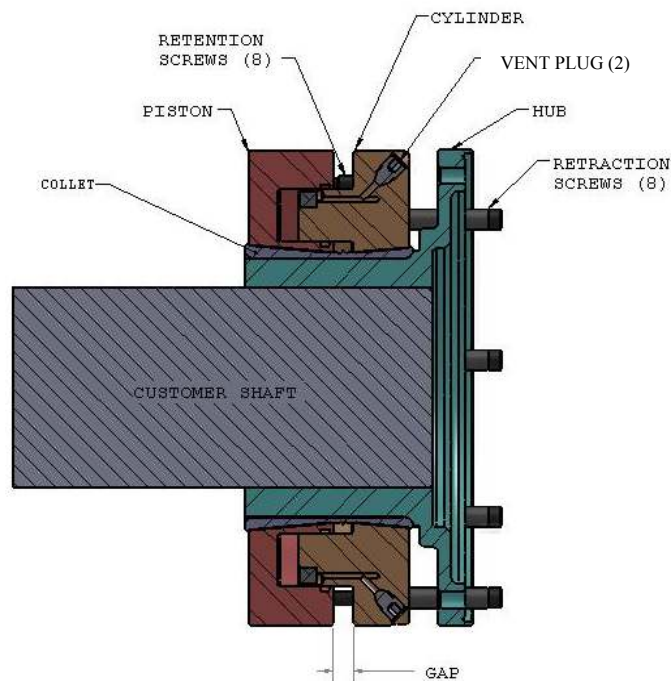
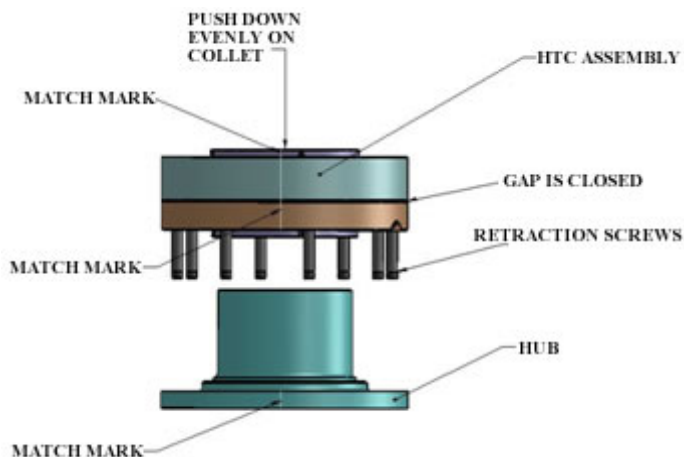
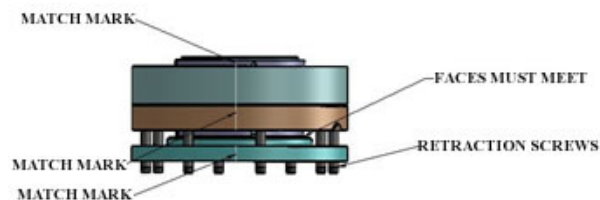

FIGURE 1a - HTC/Hub Assembly Cross Section
Figure 2a
Figure 2b
The Hydraulic Torque Coupler (HTC) connects the hub to the shaft. It accomplishes this by squeezing the hub OD with very high pressure. This pressure forces the hub to squeeze down onto the shaft producing a tight fit. Squeeze is produced when hydraulic pressure is applied. This separates the piston and cylinder of the HTC. As these rings separate, they ride up the slopes of the collet generating interference. Figure 1a shows the hub mounted on the shaft using an HTC. Prior to assembly, the hub and shaft have been machined to produce a keyless, cylindrical slip fit.
2.3.1 Remove the vent plugs (see Figure 1a). Tighten the retraction screws to 10-15 ft-lbs. Be sure the gap is closed (see Figure 2a).
2.3.2 Put the hub face down on a table. Align the match marks on the collet, Hub, and HTC to as shown in Figure 2a to ensure proper balance. Slide the HTC onto it until stop as shown in Figure 2b. Be sure to slide the HTC onto the hub evenly as there may be a slight interference fit. Always push on the collet, not on the HTC when sliding the HTC on hub.
2.3.4 Verify that the match marks are properly aligned as in Figure 2b.
2.3.6 Again verify the match marks are aligned as in Figure 2b.
2.4.18 Place vent plugs 2002429 in both hydraulic ports after all oil is drained (see Figure 1a).